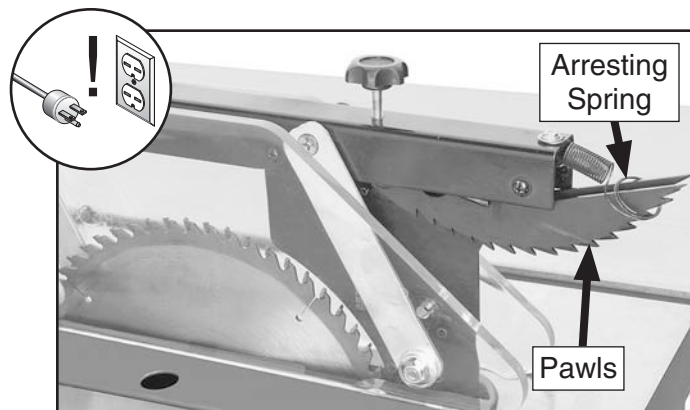

Figure 47. Pawls disabled.
2. Rotate one or both of the pawls upward, then place the arresting hook(s) in the arresting spring, as shown in **Figure 47**.